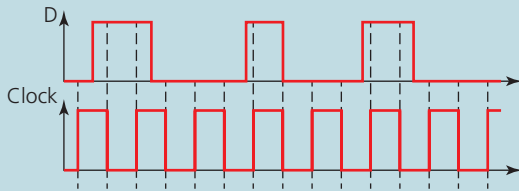

Figure 17
5. Figure 17 shows the signals applied to the D and Clock inputs of a D-type flip flop that is triggered on the rising edge. Copy these signals and below them, to the same time scale, complete the outputs for Q and  $\bar{Q}$ .